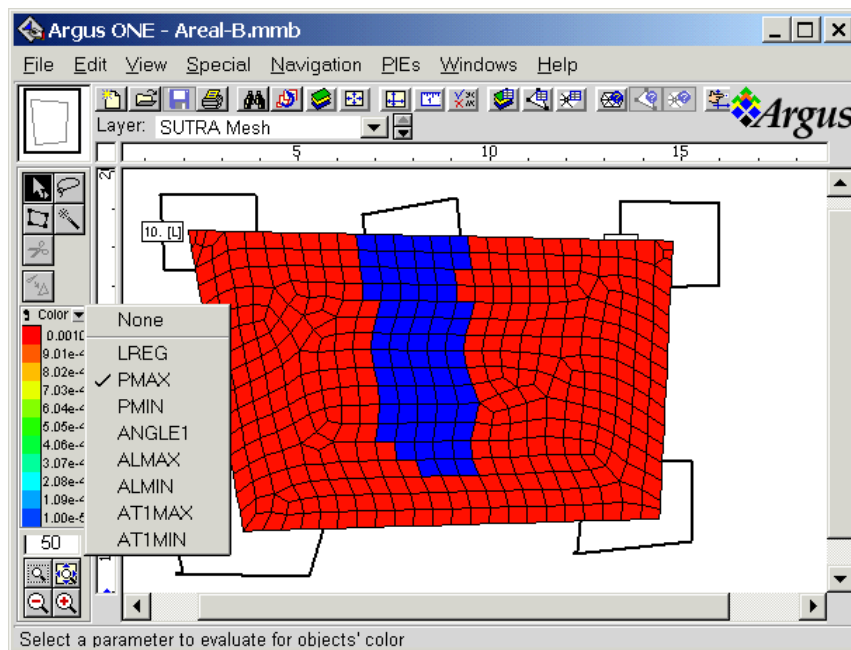

Figure 26. Mesh representation of low-conductivity barrier, areal solute transport step-by-step example.
10. The elements are colored according to maximum conductivity value (The reader is referred to figure 26 for an example). The barrier may now be examined to determine whether it was sufficiently discretized. For example, the user may wish to avoid having high-conductivity ‘holes’ through the barrier because elements are too large. If adjustments are needed, it is suggested that, for simplicity, the barrier be widened rather than refining the mesh at this point. Try adjusting the shape of the barrier by activating the *Hydraulic Conductivity* layer, clicking on one of its vertices, and dragging it to a new position. Note that the zonation shown in the mesh layer adjusts automatically to the new barrier shape.